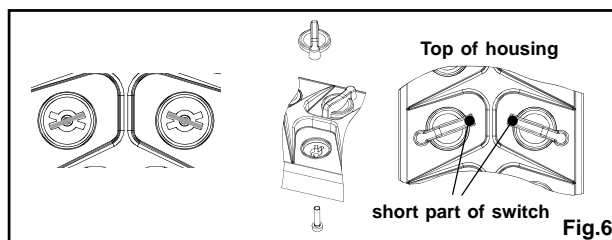

Fig.6
- 4- Holding the cam in position (pin toward center of housing), turnover the housing and place the seal/switch assembly in position in the cam housing. Fit the seal/switch assembly so that the long part of the switch is pointing toward the top of the housing (fig.6)